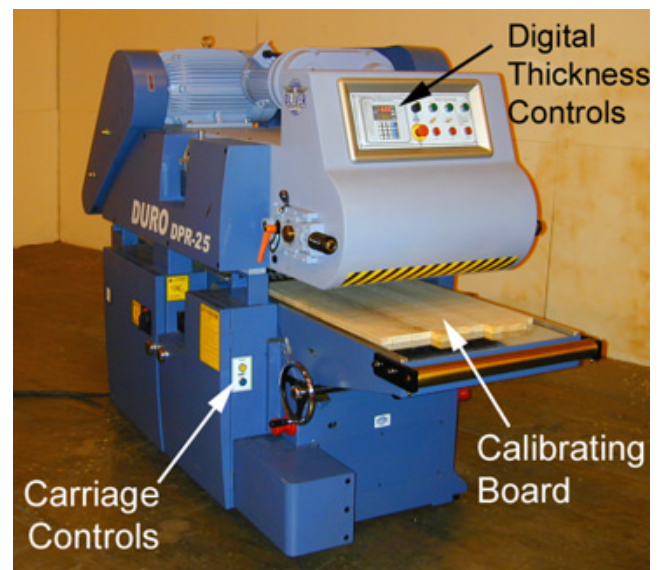

Figure 18
3. With the cutterheads and feed system NOT running, place your *calibrating board* on the infeed table and slide it into the machine, as shown in **Figure 18**.